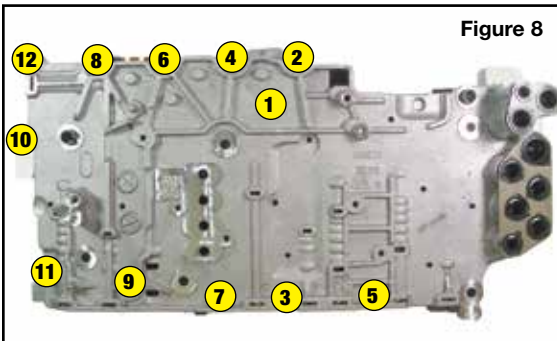

Figure 8
- Remove the 12, 7mm head bolts (**Figure 8**).
- Install the 12, 7mm head bolts and torque to 71 in-lbs. in sequence shown (Fig. 8).